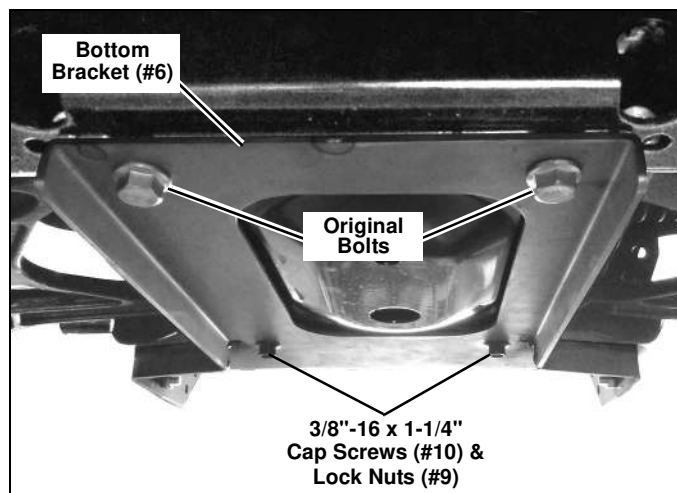

Figure 1
3. Position Bottom Bracket (#6) under bottom skid plate. Insert the original two Gator bolts previously removed in the rear holes and (2) 3/8"-16 x 1-1/4" Cap Screws (#10) in the front holes. Loosely secure with (2) 3/8"-16 Lock Nuts (#9). (See Figure 1.)